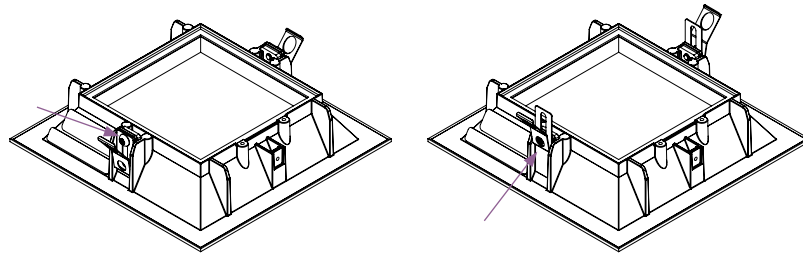

fig. 12
- a. If your ceiling's substrate is thicker than $\frac{5}{8}$ " - 1" (16.129 - 25.4 mm), adjust the springs on either side of your trim: a) Using a #1 screwdriver, loosen the screw holding the spring in place; b) raise the spring as high (as far from the bottom of the trim) as it will go; c) re-tighten the screw. (see fig. 12)